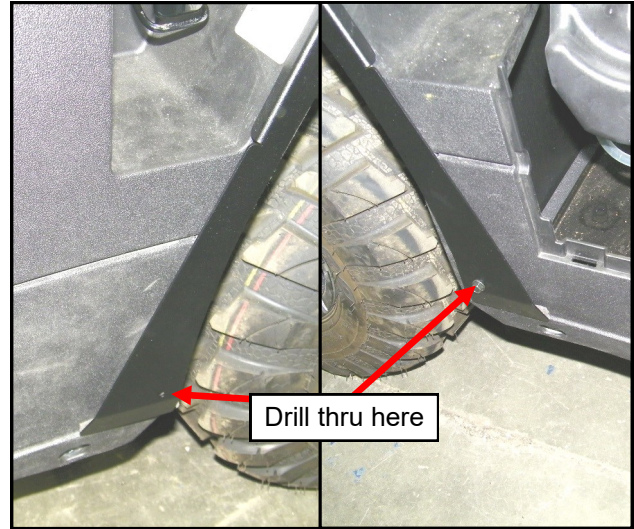

Fig. 14.1 C-pillar lower bolt
**14.1** Ensure the cargo bed is still in the raised and locked position, and remove the battery cover at the passenger's side seat base. Per figure 14.1, drill a 9/32" hole through the lower hole in the C-pillar and through the plastic panel underneath. Secure the C-pillar to the plastic panel with a 1/4-20 bolt outside, and steel washer and nut inside the plastic panel and tighten snug.